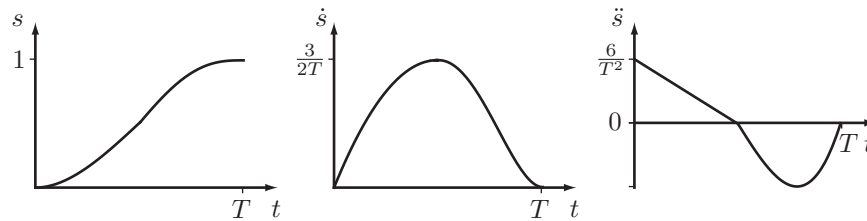

Figure 9.2: Plots of $s(t)$, $\dot{s}(t)$, and $\ddot{s}(t)$
- (a) We can get the plot by combining the former half of plots for a cubic scaling and the latter half of plots for a quintic time scaling, as shown in Figure 9.2.